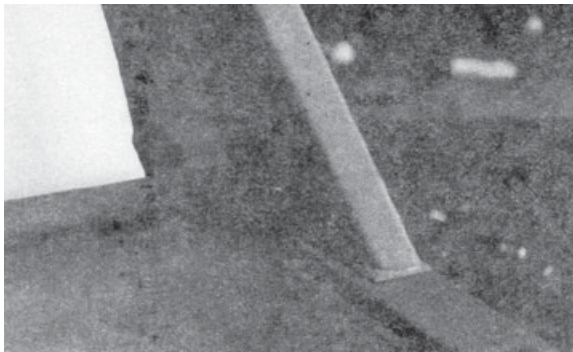

Figure 7-12.
21. Install all optional equipment and accessories such as light pylon, mud flaps, etc. (See Figure 7-12.)